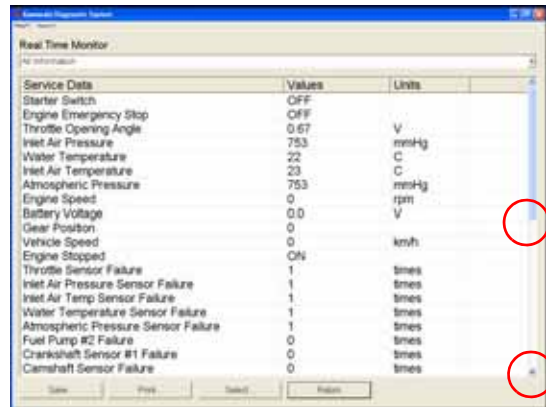
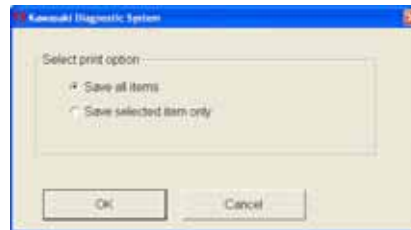

Fig. 6-8 Real Time monitor
Fig. 6-14 Print Option
Fig. 6-8 is a sample of **All Information**.
- o Select **Save** (Fig. 6-8).
By Clicking **Print** at Fig. 6-8, Fig. 6-14 appears.